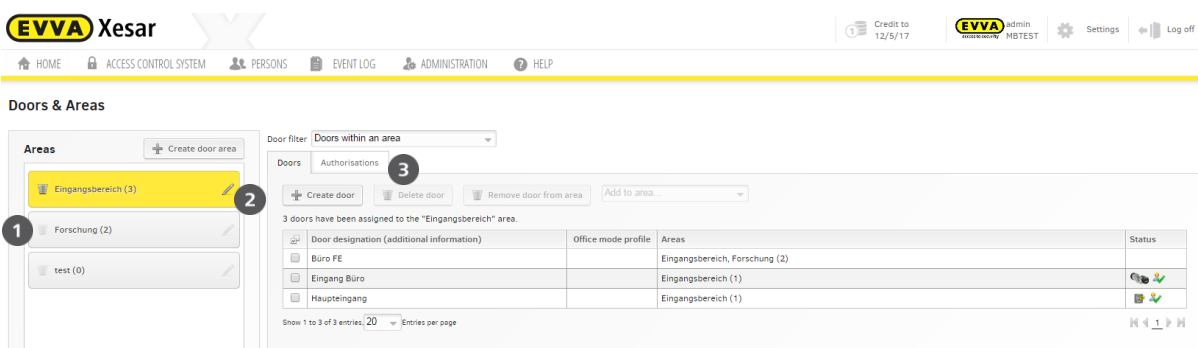

Figure 79: Door area level 2
Door areas will automatically be highlighted in yellow once you have clicked to select them (Figure 79: Door area level 2).
- Then click the pen icon  (Figure 79: Door area level 2).